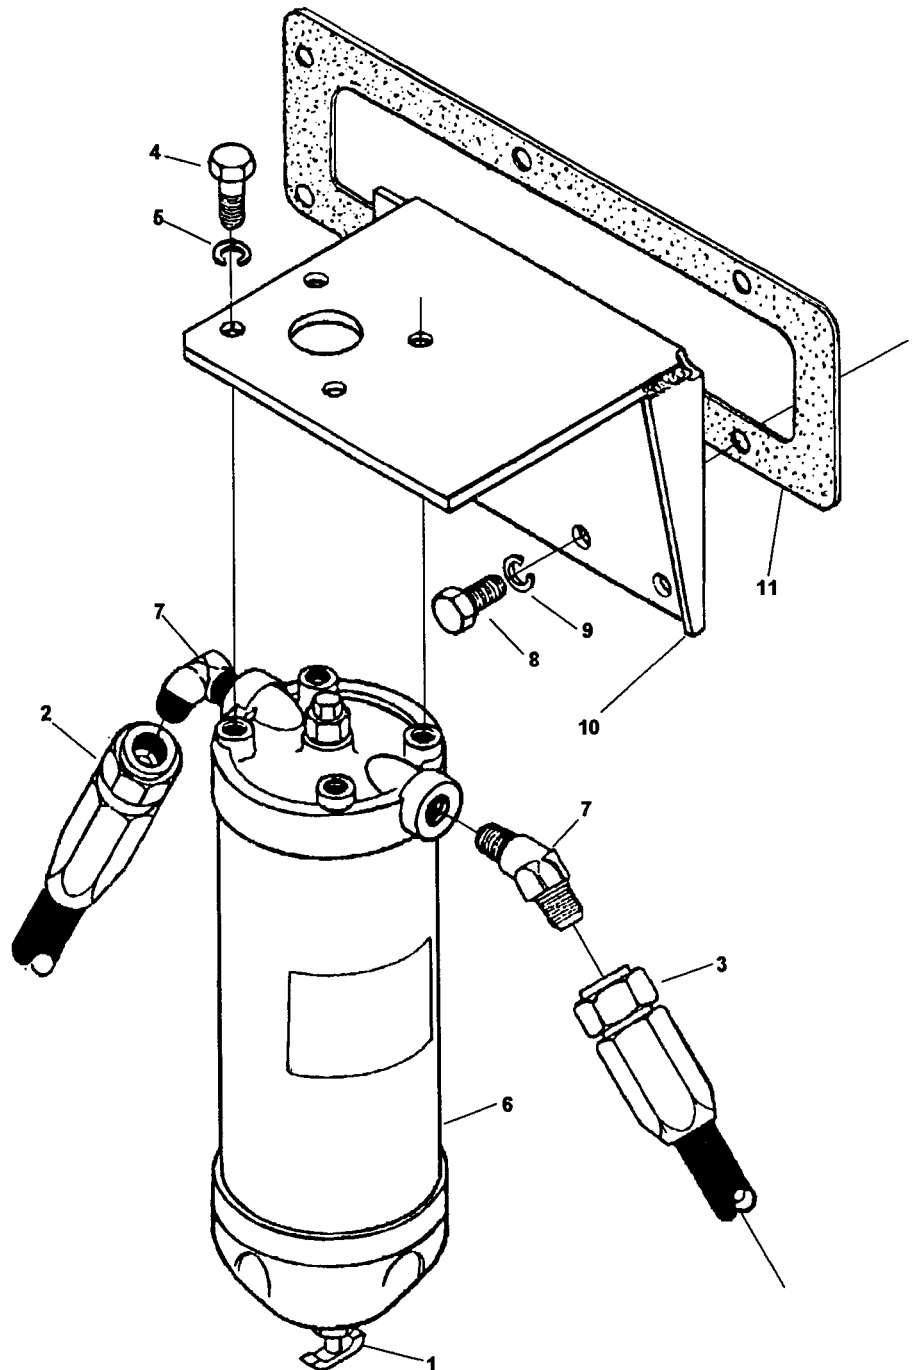

Figure 4-18. Secondary Fuel Filter Assembly, Removal and Installation
- (1) Drain day tank assembly (para 3-21).
- (2) Open drain cock (1, Figure 4-18) and allow fuel to drain into a suitable container.
- (3) Disconnect fuel hose assemblies (2 and 3).
- (4) Remove capcrews (4) and lockwashers (5) to remove secondary fuel filter (6).
- (5) Remove elbows (7).
- (6) Do not remove capscrews (8), lockwashers (9), mounting bracket (10) and gasket (11) unless replacement is necessary.
- (7) Refer to paragraph 4-31b and disassemble fuel filter assembly.
- (1) Refer to para 4-31d and reassemble fuel filter assembly.
- (2) If removed (Figure 4-18), install gasket (11), mounting bracket (10), lockwashers (9), and capscrews (8).
- (3) Install elbows (7).
- (4) Install secondary fuel filter (6), lockwashers (5), and capscrews (4).
- (5) Reconnect fuel hose assemblies (3 and 2).
- (6) Close drain cock (1).
- (7) Fill day tank.